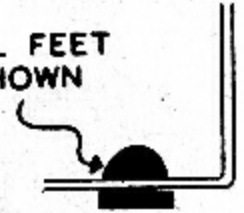

Figure 5
- ( ) Connect the two ends of the 3 1/2" ground wire to the two binding post ground lugs (S). See Pictorial 2.
- ( ) Connect the two bare wires coming from P1 and P3 to the adjacent insulated binding post lugs (S).
- ( ) Install the rubber feet on the back cover as shown in Figure 5.